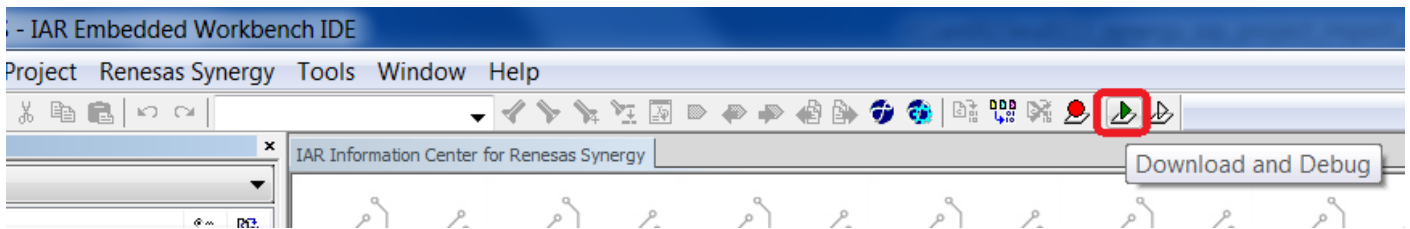

Figure 1.14 Debugger Setup 2
- 3. Press the **CTRL+D** or **Download and Debug** button (Figure 1.14) to start debugging.